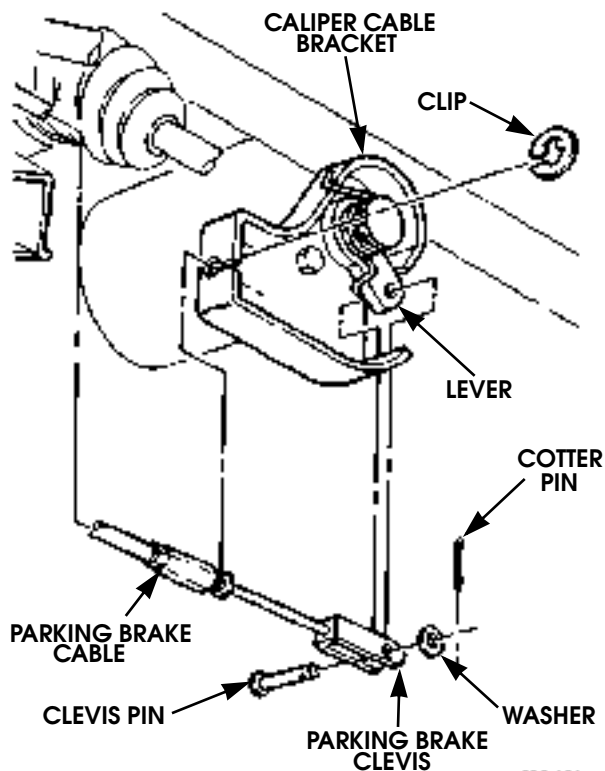

Figure 7-18: Rear Dual Brake Components
2. Remove cotter pin, washer, and clevis pin securing parking brake cable to lever. Discard cotter pin (Figure 7-18).